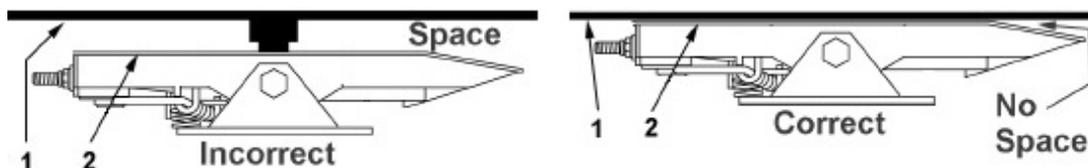

Figure 3-3 Fifth Wheel Checks
10. Inspect the coupling. See figure 3-3. Verify there is **no space** between the kingpin plate and the fifth wheel. **If there is space**, the kingpin may be on top of the fifth wheel jaws. Raise the trailer with the landing gear, pull the fifth wheel release lever and pull the truck ahead. Repeat steps 6-10 again to couple the trailer correctly.